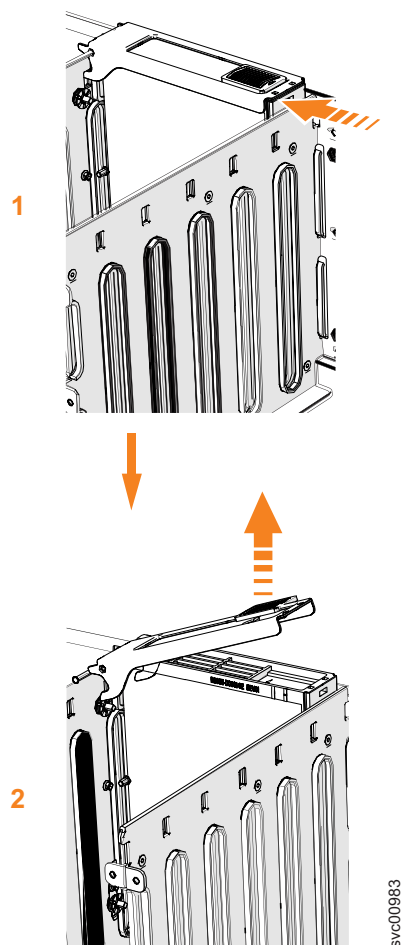

Figure 92. Remove the drive assembly
5. Slide the release latch forward (**1**), as shown in Figure 92 on page 100.
6. Lift the handle (**2**) to unlock the drive carrier from the partition, as shown in Figure 92. Ensure the toe on the bottom of the latch is fully disengaged.